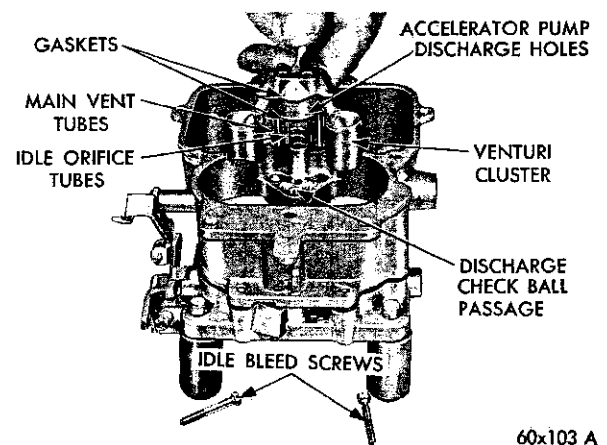

Fig. 25—Removing the Venturi Cluster
(10) Remove the venturi cluster idle bleed screws, then lift the venturi cluster and gaskets up and away from the main body, as shown in Figure 25. Discard the gaskets. **Do not remove the idle orifice tubes or the main vent tubes from the cluster.** They can be cleaned in a solvent and dried with compressed air.
(11) Invert the carburetor and drop out the accelerator pump discharge check ball.
(12) Remove the idle mixture adjusting screws and springs from the throttle body.
(13) Remove the screws that attach the throttle body to the main body. Separate the bodies and discard the gasket.
(5) Install new gaskets on the venturi cluster, and install in position in the main body (Fig. 25). Install the idle bleed screws and tighten securely. Test pump discharge by pressing pump plunger down. Two fine streams of fuel should be forced from the cluster. If either stream is restricted or diverted, remove cluster and reclean. After test, pour the fuel from the bowl and remove pump plunger.